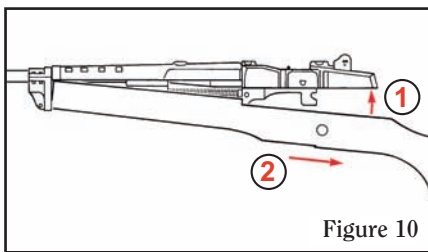

Figure 10
- Remove barrel/receiver assembly from stock by lifting the rear of the assembly out of the stock and then pulling the stock rearward out of engagement with the gas block. (See Fig. 10.)